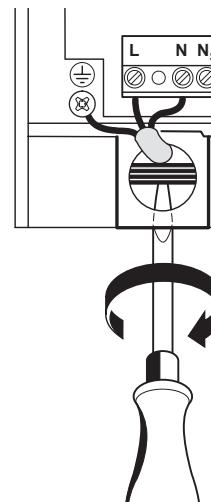

Fig. 29
- Feed cable through cable grommet and connect the mains supply cable, see fig. 29.